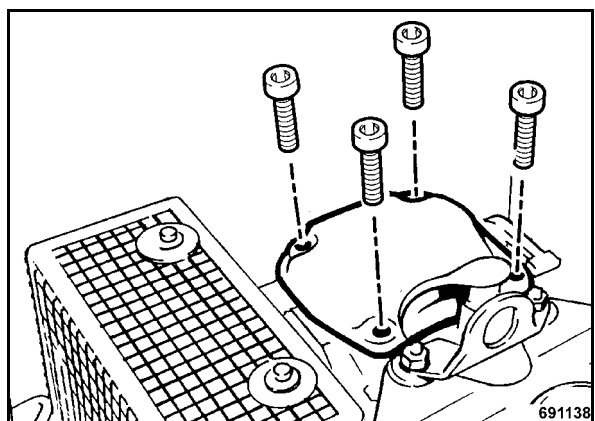

Fig. 58
- Disassemble the valve cover (Fig. 58).